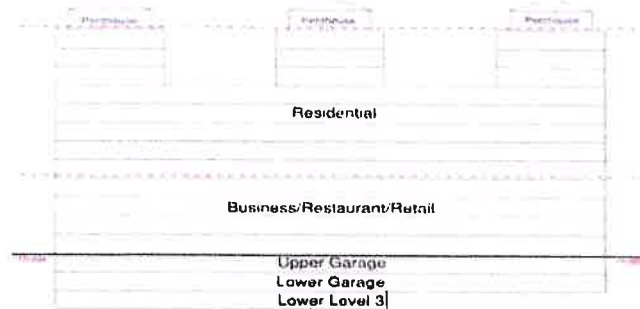

Figure 1: Heritage on the Garden
The Heritage on the Garden is an existing 12-story above grade building with a 3-story below grade parking garage. The building is provided with three (3) towers. Vehicular access is provided on all four sides of the structure. The building is classified as a mixed-use occupancy that primarily contains residential units, business spaces, restaurants, mercantile spaces, parking garage, and building support spaces. The residential units are located in the upper levels, the business, restaurant and retail spaces are located on the lower levels, and the parking is located underground. See Figure 1 below.